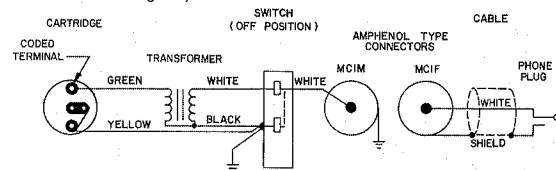

FIGURE 2
To change the phase of a microphone, the microphone cartridge leads must be interchanged (see Figure 2). This should be performed by your dealer, the Shure Factory Service Department, or other qualified service personnel.
**Phasing:** Positive pressure on diaphragm produces positive voltage on WHITE cable conductor and TIP of phone plug (see Figure 2 and Page 4).